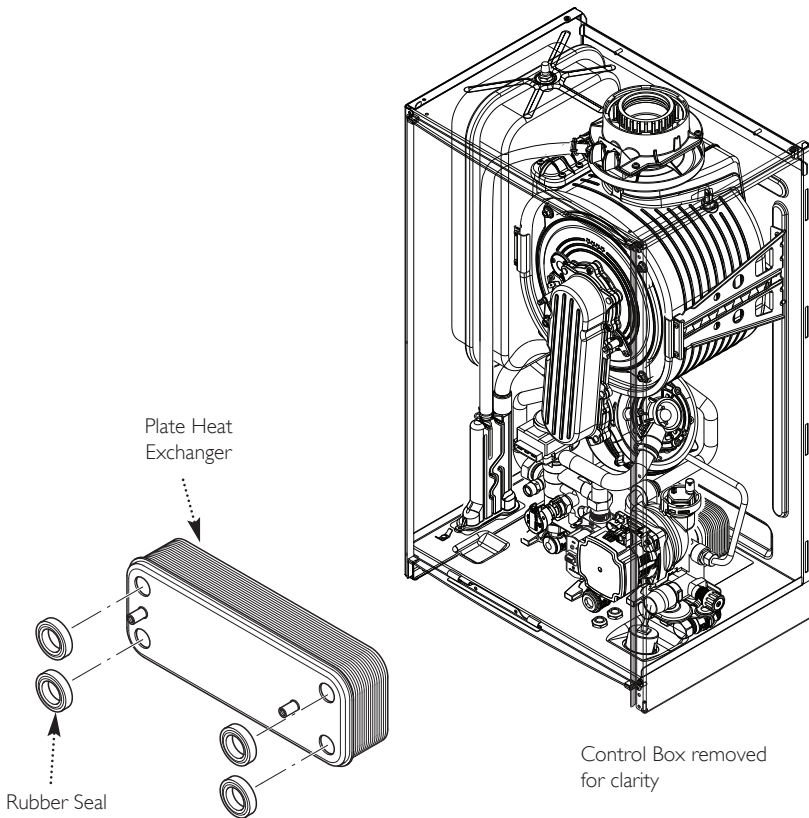

Fig. 62
13.16 Plate Heat Exchanger (Fig. 62)